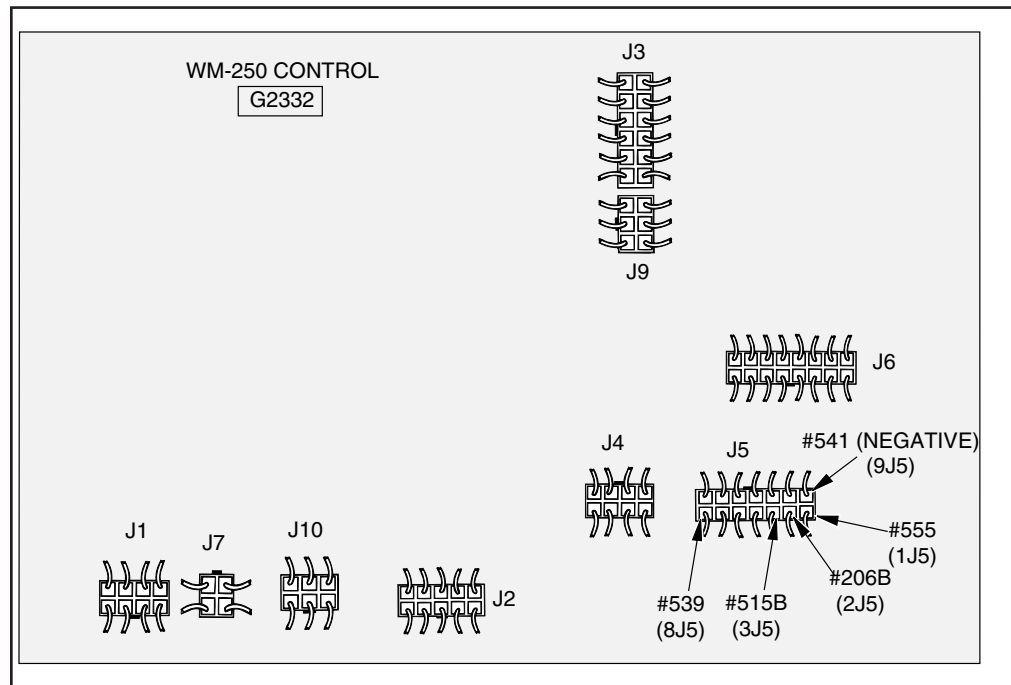

FIGURE F.8 - Plug J5 Location on G2332 PC Control Board.
3. Locate Plug J5 on the G2332 Control Board. See Figure F.8.
4. Test for 2 - 25 VDC between lead #539 (positive) (8J5) and lead #541 (9J5) (negative) to determine if the correct armature voltage is being supplied. See **Figure F.8**.
1. Test for 1.5 - 3.5 VDC between lead #555 (positive) (1J5) and lead #206B (negative) (2J5) . See **Figure F.8** for pin locations.
1. Test for 15 VDC between lead #515B (positive) (3J5) and lead #206B (negative) (2J5) . See **Figure F.8** for pin locations.